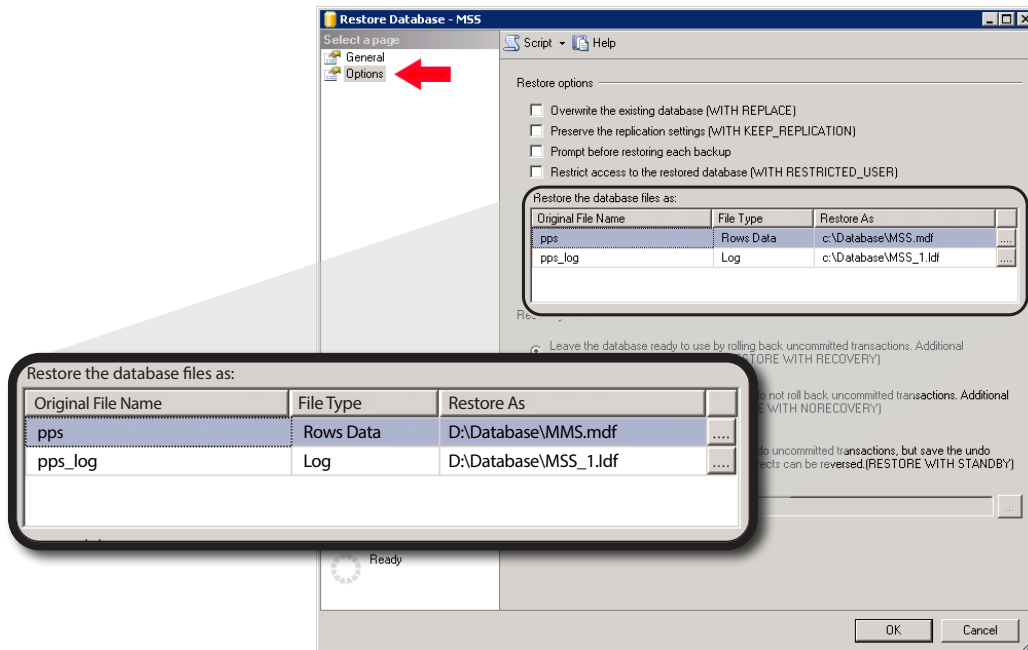

Figure 118. Restore Database options tab.
12. Click **Options** in the **Select a Page** section of the dialog (see Figure 118).